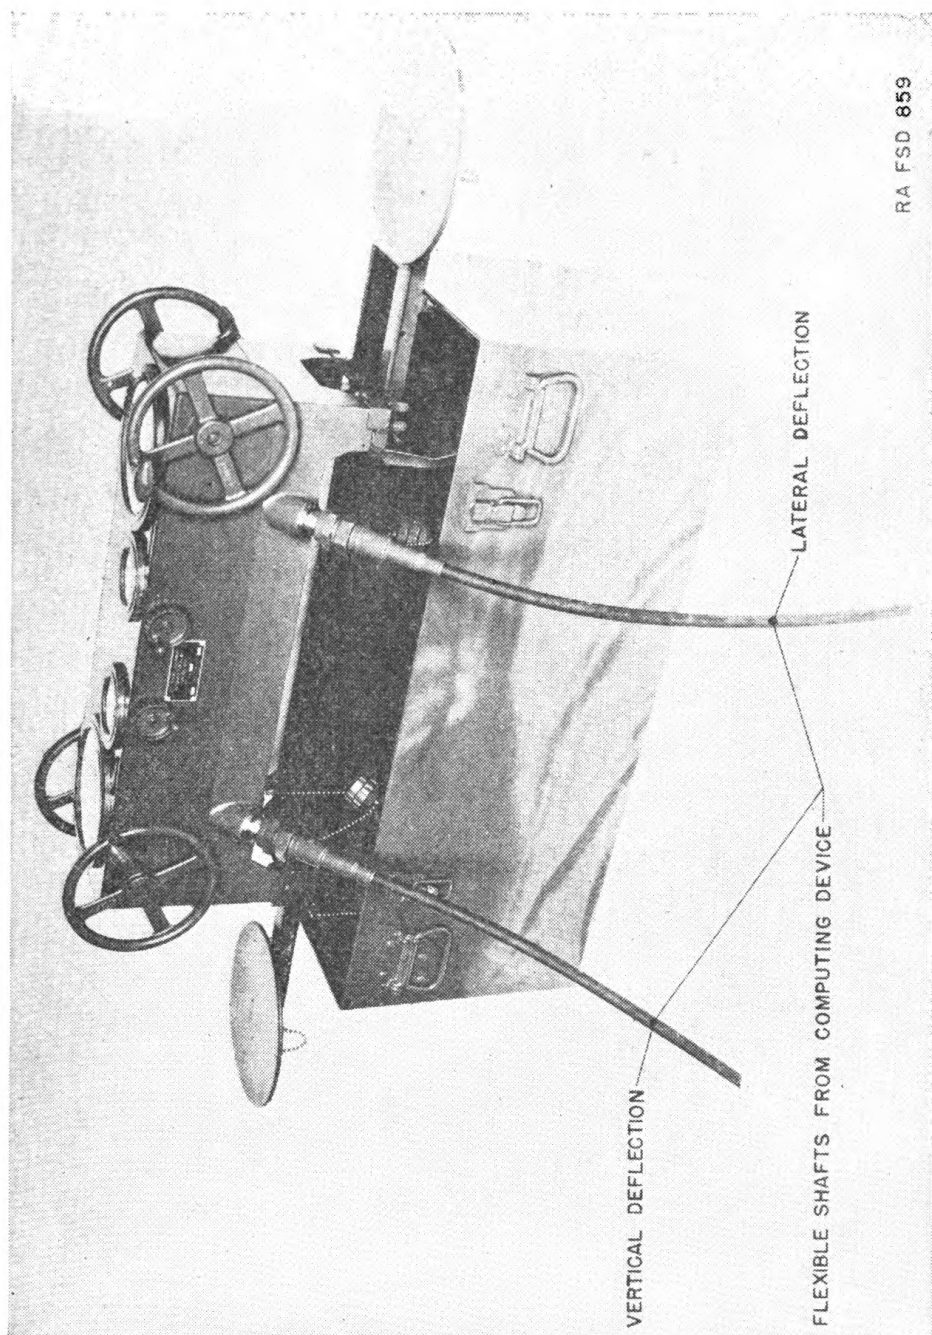

FIGURE 22.—Automatic gun antiaircraft control equipment set, M1, input side.
29. Control equipment set, automatic gun, antiaircraft, M1.—One automatic gun antiaircraft control equipment set, M1 (figs. 22 and 23) is furnished for each firing unit of four Browning machine guns, caliber .50, M2, water-cooled. The set complete consists of the control box, twenty 50-foot flexible shafts including two spares, and the necessary packing chests for control box and flexible shafts.
b. Operation.—(1) Set up the control box. Carry the control box in its packing chest to the desired location which should be on firm, level ground. Release the four trunk bolts and remove the lid of the packing chest. Grasp the control box by the base and lift it from the chest. Remove the operator seat locking pins holding the folding seat supports to the bottom of the chest. Unfold the seats upward and outward until the seats are substantially level and the holes in the projecting legs of the horizontal seat supporting bars are alined with the holes in the blocks at the ends of the packing chest. Insert the operator seat locking pins in the holes. Slide the seats outward to the desired location, the removable support arm locking pins being provided under each seat to permit this adjustment. Place the control box on the blocks ahead of the seats and screw the wing screws upward securely into the threaded holes in the base of the box. The appearance of the control box and packing chest when ready to operate is as shown in figures 22 and 23.